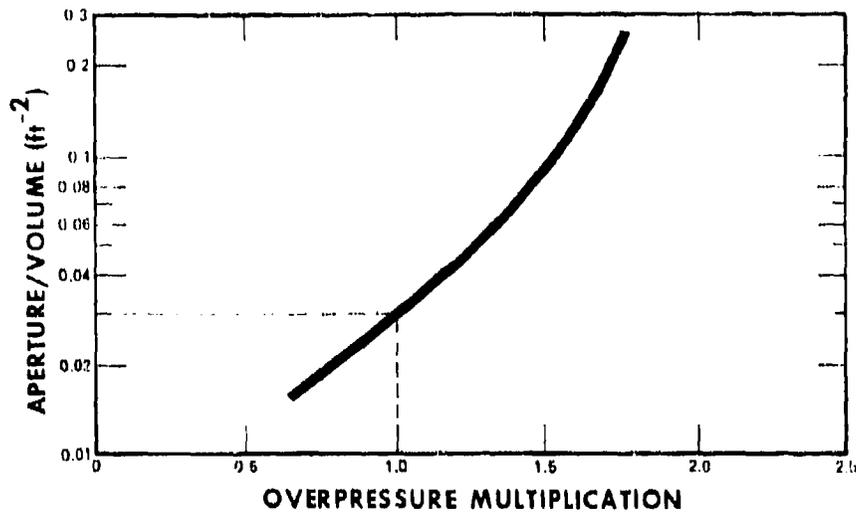

FIGURE 10. OVERPRESSURE MULTIPLICATION PLOTTED AS A FUNCTION OF OPENING/VOLUME RATIO.
--"Keep the openings to your shelter small." A blast wave can enter a shelter and be reflected to increase the interior pressure to hazardous levels. This pressure increase depends strongly on the ratio of the size of the opening to the total volume of the shelter as shown in figure 10.